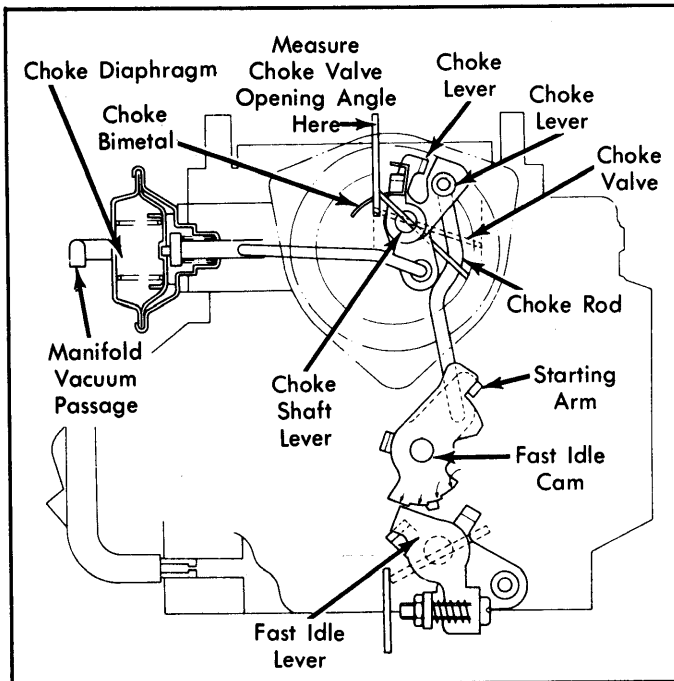

Fig. 5: Choke Valve Opening Angle Adjustment
1) Check throttle valve opening clearance. Then place fast idle lever on 2nd step of fast idle cam. See Fig. 5. Adjust choke valve opening angle or clearance by bending starting arm.